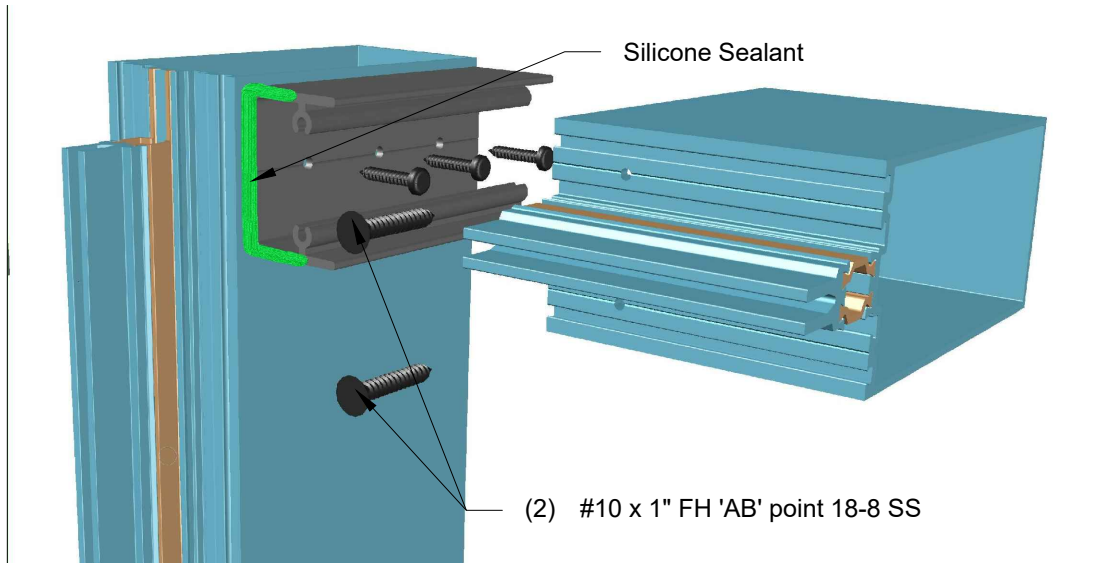

Fig. 4 (Shear block assembly)
- 1.4 Locate the center line of horizontal member and attach the shear block using #10 x 5/8" Hex self drilling screws. Please see 'SHEAR BLOCK PREP' on **page 11-16 (2.1)**. Install shear blocks as shown in **Fig 4** on **page 10** and seal the screw 10 x 1" FH screw heads with silicone.